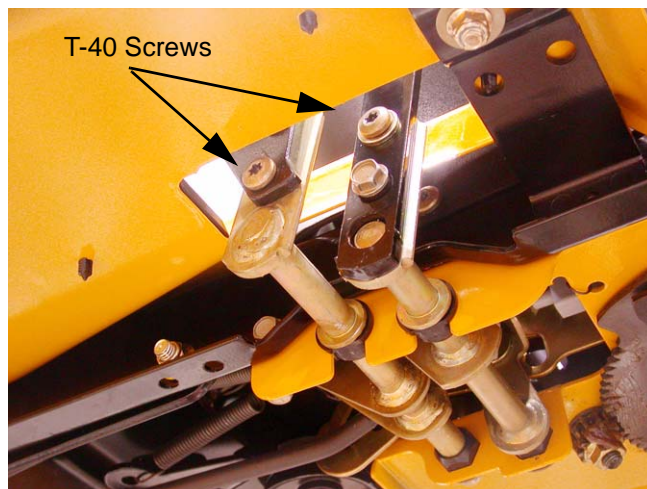

Figure 24.15
24.15. Set the parking brake, and remove the drive pedal using a T-40 driver. See Figure 24.15.